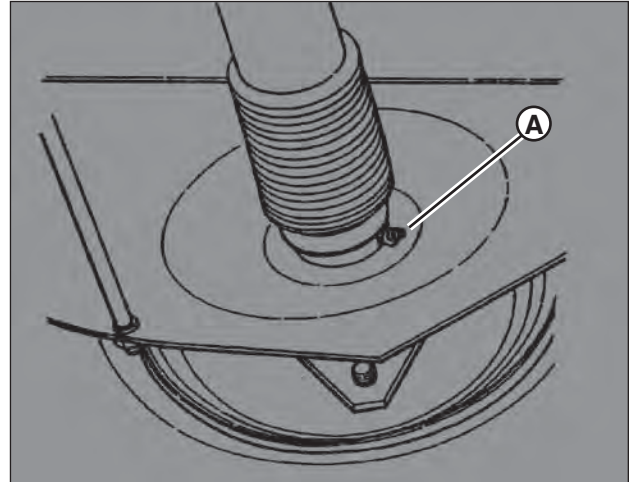

Figure 31: Rear axle grease fitting (view from under unit)
1. The grease fitting (A, Figure 31) on the left rear axle bearing requires three shots of general purpose grease from grease gun.